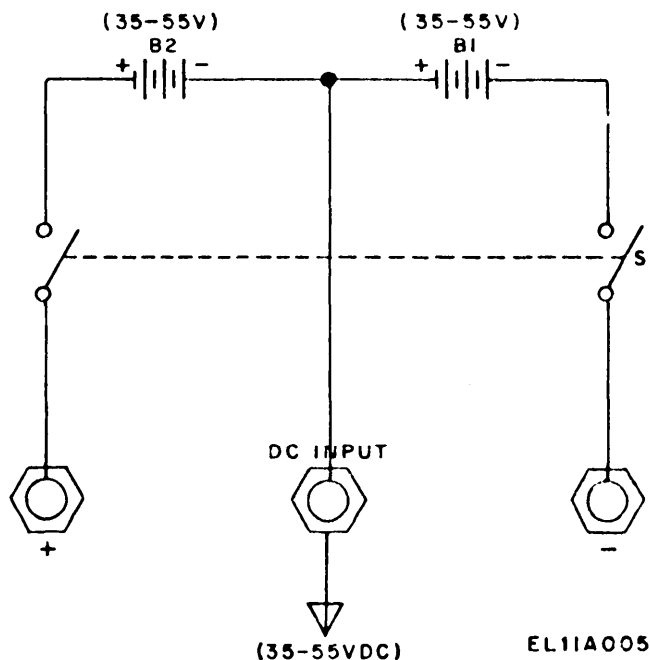

Figure 3-2. External battery connection.
c. Operate the power ON switch to the ON position, observe lighted LINE lamp, and allow a warmup period of approximately 5 minutes. If on dc power (battery operation) power ON switch has no effect; use external switch is so wired, (fig. 3-2).